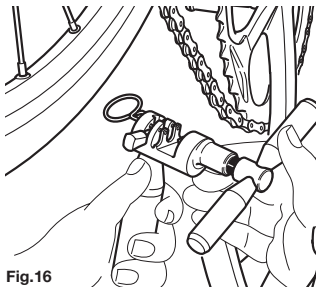

Fig.16
- Position the tool **UT-CN400** as indicated in **Fig. 16** (from the outside of the chain towards the inside).